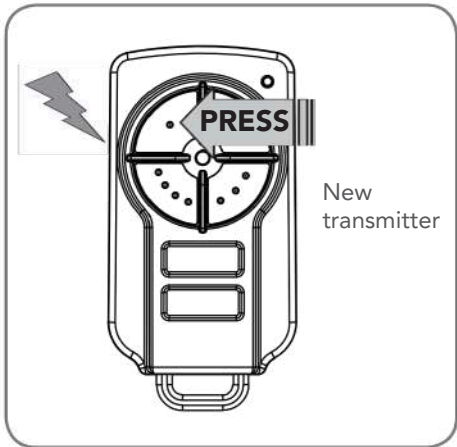

Fig 11.3
- b. Within 10 seconds, press the button on the new transmitter you wish to code for 2 seconds (Fig. 11.3).